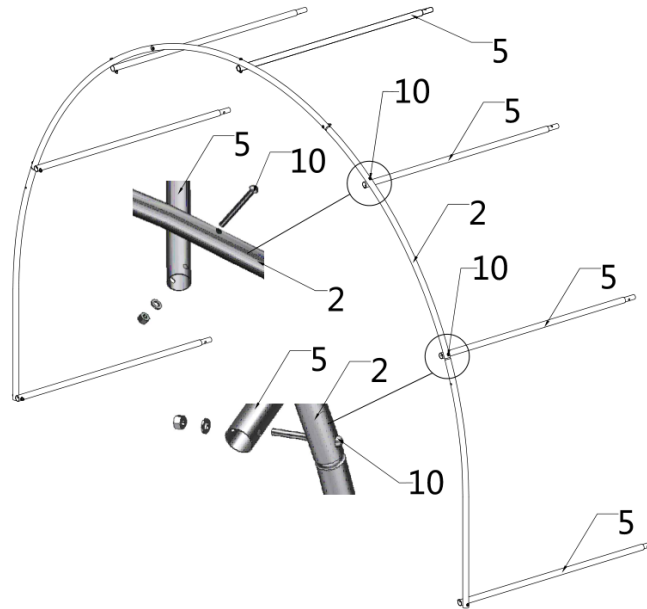

Figure 4
- First, erect the front truss. We suggest two or three people. One to two people hold the truss and keep it upright and stable, while the other person installs the roof purlin (#5). Use bolts (#10) to link the truss to the cross pull tube, and then tighten all bolts. (refer to figure 4)
- (7) Roof purlin (#5)